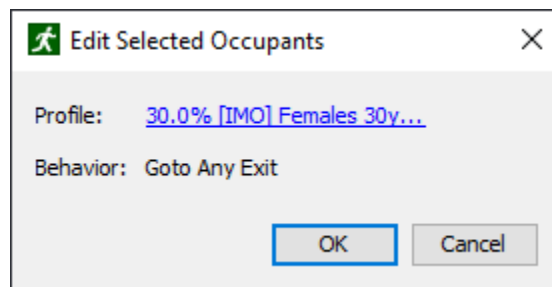

Figure 123. Edit Selected Occupants dialog
1. Select occupants, right-click one of the selected occupants either in the Navigation view or Model view, and then select **Properties** from the right-click menu. To edit a single occupant or group, double-click the occupant or group in the Navigation view. The Edit Selected Occupants dialog will appear as shown in Figure 123.